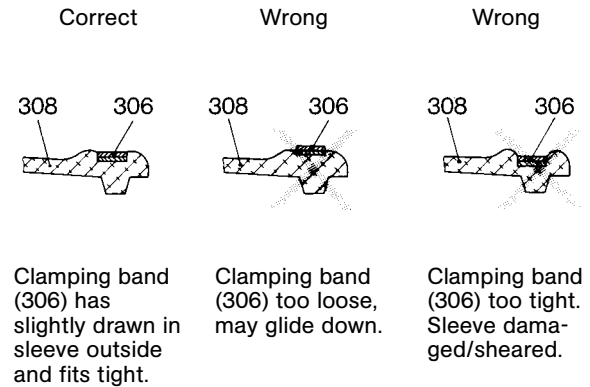

Figure 8: Clamping of clamping bands.
- Place clamping bands (306) in the surrounding grooves of the cover sleeve (308), and clamp.
**Note:** Proper clamping of the clamping bands (306) is shown in Figure 8 below.